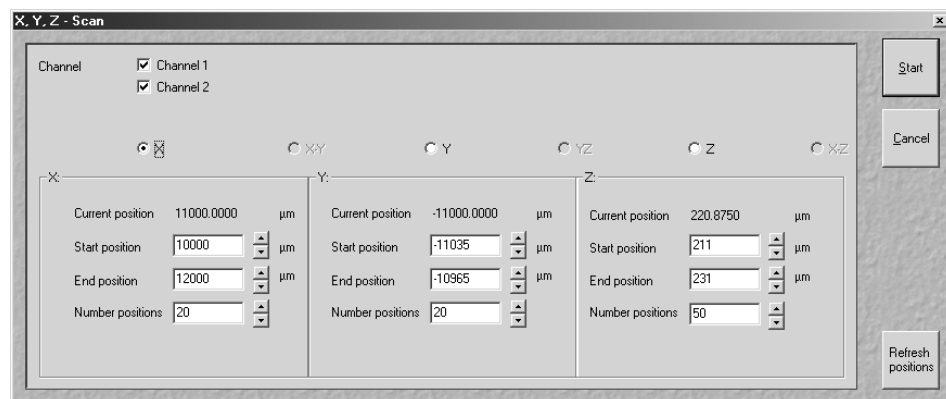

Fig. 5-193 X,Y,Z-Scan operating window
- The **X,Y,Z-Scan** operating window appears on the screen (Fig. 5-193).